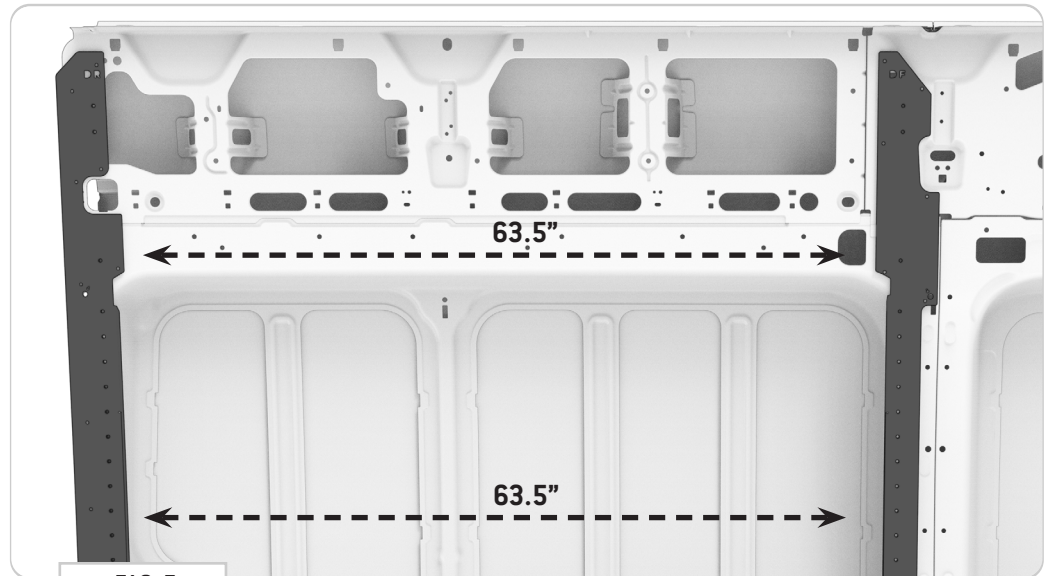

FIG 7
4.1 Measure Bracket Spacing: Once you have the Bed Brackets held in place, you'll need to confirm that the distance between rail mounting points are square at 63.5" thread insert to thread insert (**FIG 7**).